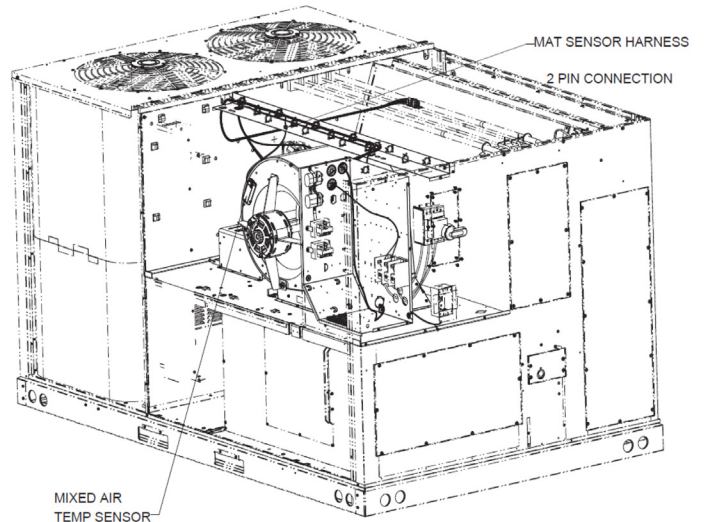

FIGURE 17 - INDOOR FAN SECTION/MIXED AIR SENSOR 7.5-12.5 Ton
4. Remove the indoor fan compartment cover and locate the factory installed mixed air temperature harness. This harness consists of two black wires and a two pin connector. Once the harness is located, install the mixed air temperature sensor provided with the kit on the side of the blower housing. Connect the mixed air temperature sensor to the harness using the adapter harness provided with the economizer kit (see Figure 17). Reinstall the indoor fan compartment cover.